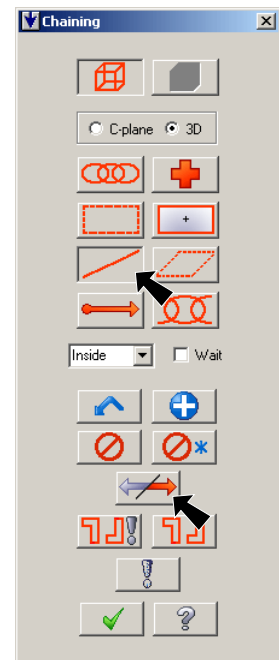

Fig. 25
Step 2. Click Single  (S) in Chaining dialog box, **Fig. 25**.